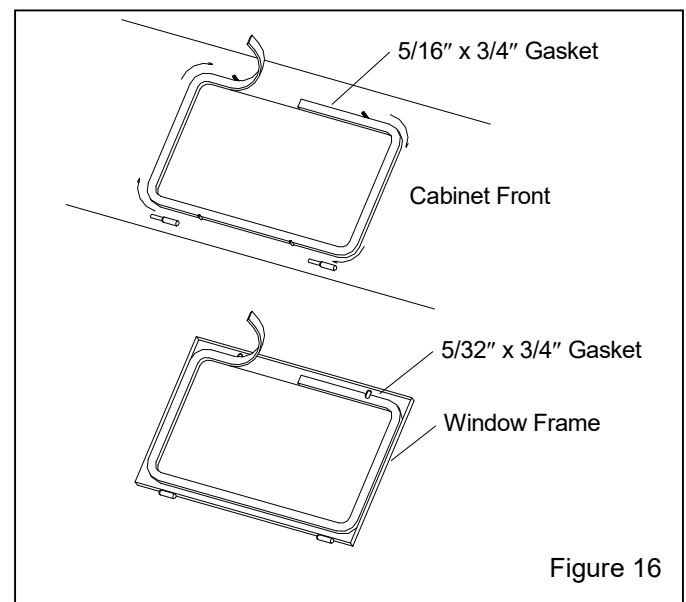

Figure 16
8.3 Window Gasket Replacement – Figure 16
8.3.4 Peel a short section of adhesive backing from the 5/16" thick strip gasket and adhere the gasket to the center of the top edge of the window opening, as shown in Figure 16. Peel additional backing as needed, and work the strip around the radius of each corner, pressing it tightly to bond. Trim the gasket to fit and compress the ends to seal.